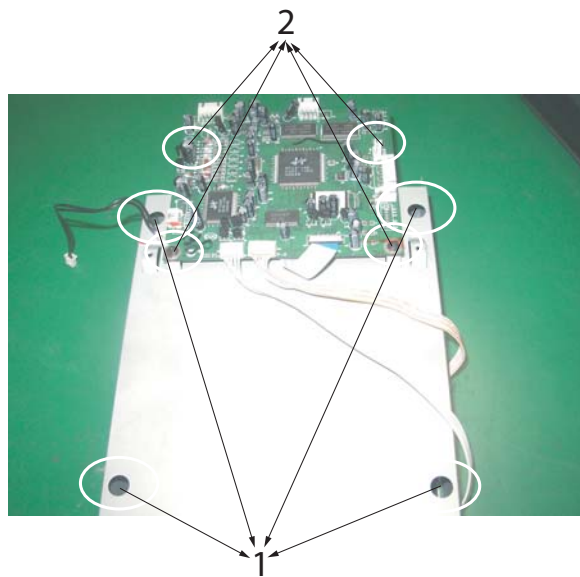

Figure 4-3 DVD Module
1. UUN01nscrew the four fixation screws at position (1) shown as Figure 4-3, then separate the whole DVD module(DVD loader and Decoder board) from the TV chassis after you remove all cables connecting DVD module and the TV chassis?